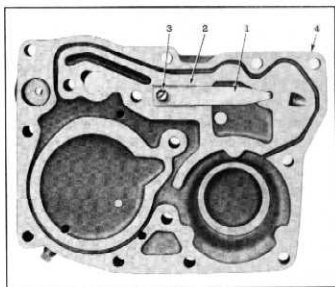

Fig. 98—Lubrication Thermostatic Valve
1. Remove bi-metal strip retaining screw, bi-metal strip and retainer from cover (fig. 98).